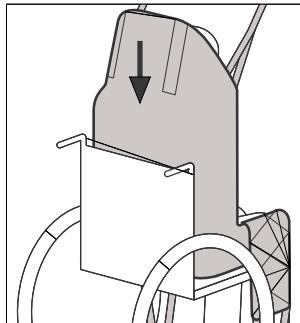

Figure 1
3. Sit the client back against the sling. **Figure 1**.